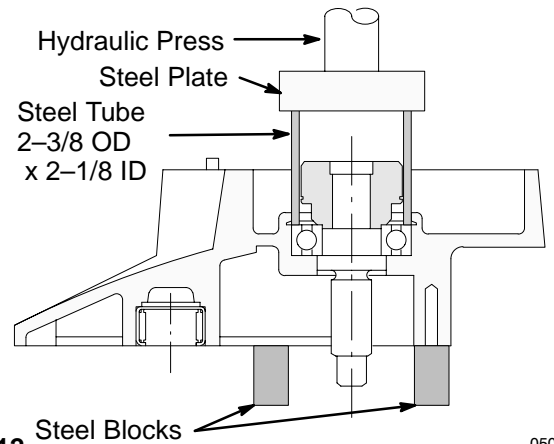

Fig. 12 05068
3. Press the new pinion shaft assembly into the pinion housing, pushing it to the shoulder of the housing (11a). See Fig. 12. Use a steel tube to press on the outside diameter of the bearing to prevent damage to the bearing.
7. **Using a hydraulic press**, Install the pinion shaft assembly, by pressing it to the shoulder of the housing (11a). Use a steel tube to press on the bearing outer race to prevent damage to the bearing. See Fig. 12.